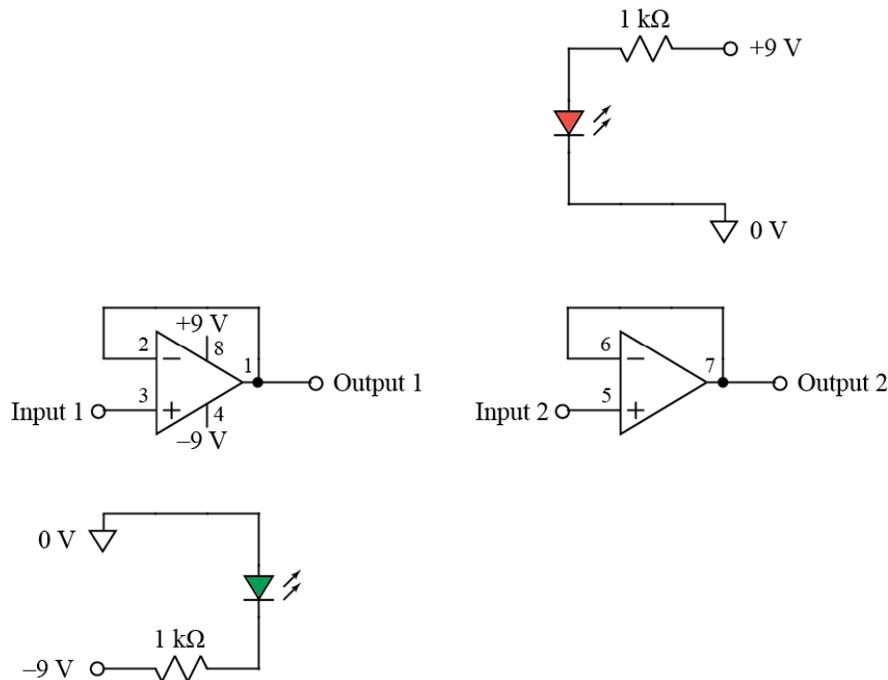
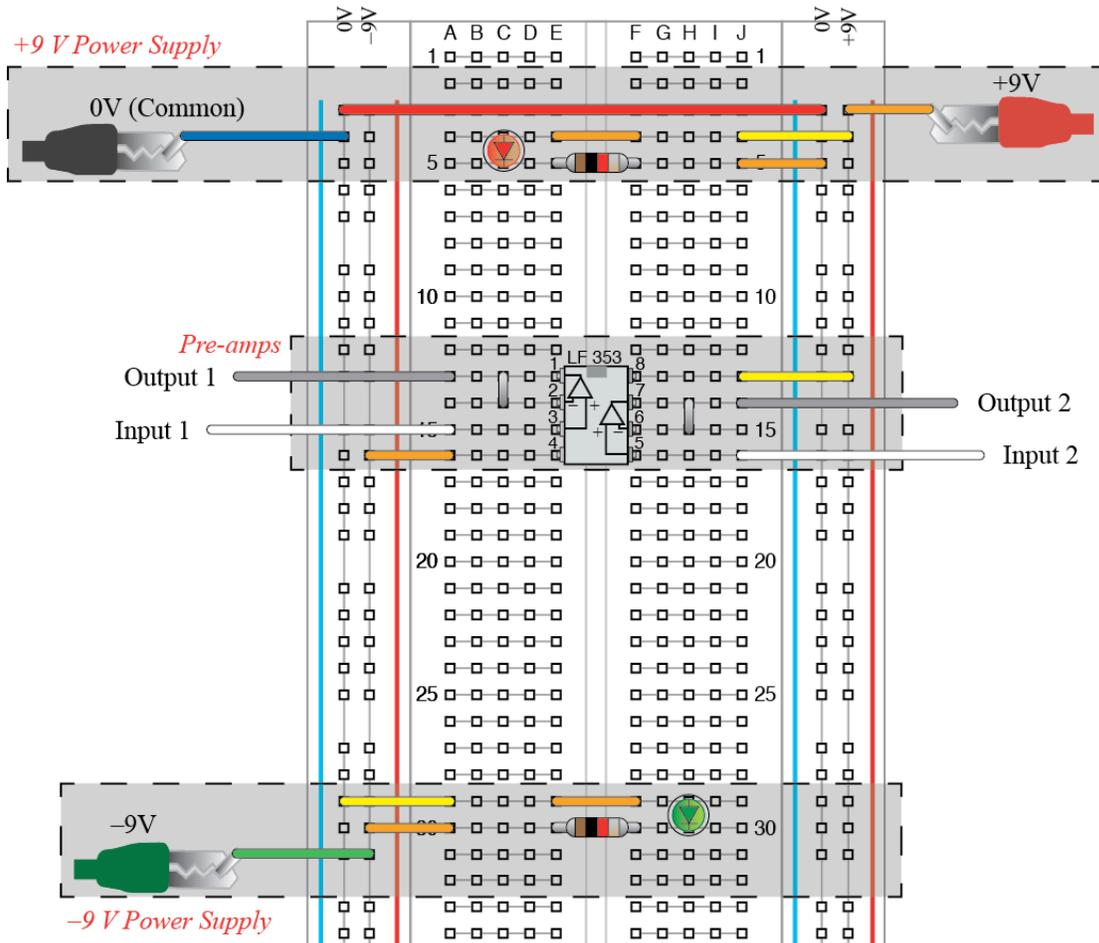

Figure 8. Pre-amp circuits: schematic. (LED power indicators also shown.)
Figure 9. Pre-amp circuits: breadboard layout.
In this part of the lab, you will build and test the pre-amp circuits. Fig. 8 shows a schematic diagram of the pre-amp circuits that the models in the previous section simulated. The pre-amps draw very little current from the electrodes and output the same voltage as the electrodes but with a much higher ability to supply current. As shown in the previous section, the output
1) Using the diagram in Fig. 9, construct the two pre-amp circuits whose schematic diagram is shown in Fig. 8. The LF353 is an op-amp IC that you may purchase in the stockroom (or elsewhere). Note that all points in the circuit marked with a triangle, meaning they are at 0V, are connected together. Note also that there are two very short vertical wires near the op-amp chip. These wires connect the outputs of the op-amps back to the – inputs of the op-amps.